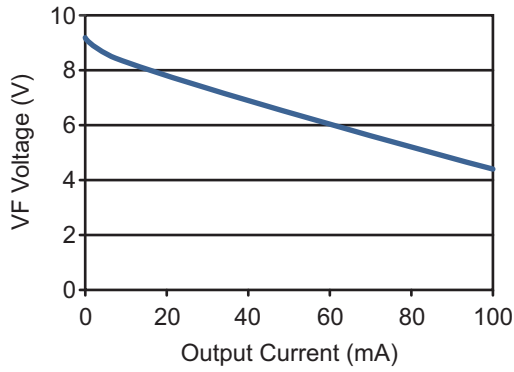

Figure 9. Typ. VF output vs. output current ($V_{DD1A} = 3.3\text{ V}$; $25\text{ }^\circ\text{C}$).
- Added start-up current specification (p. 6) and typical graph (Figure 9).